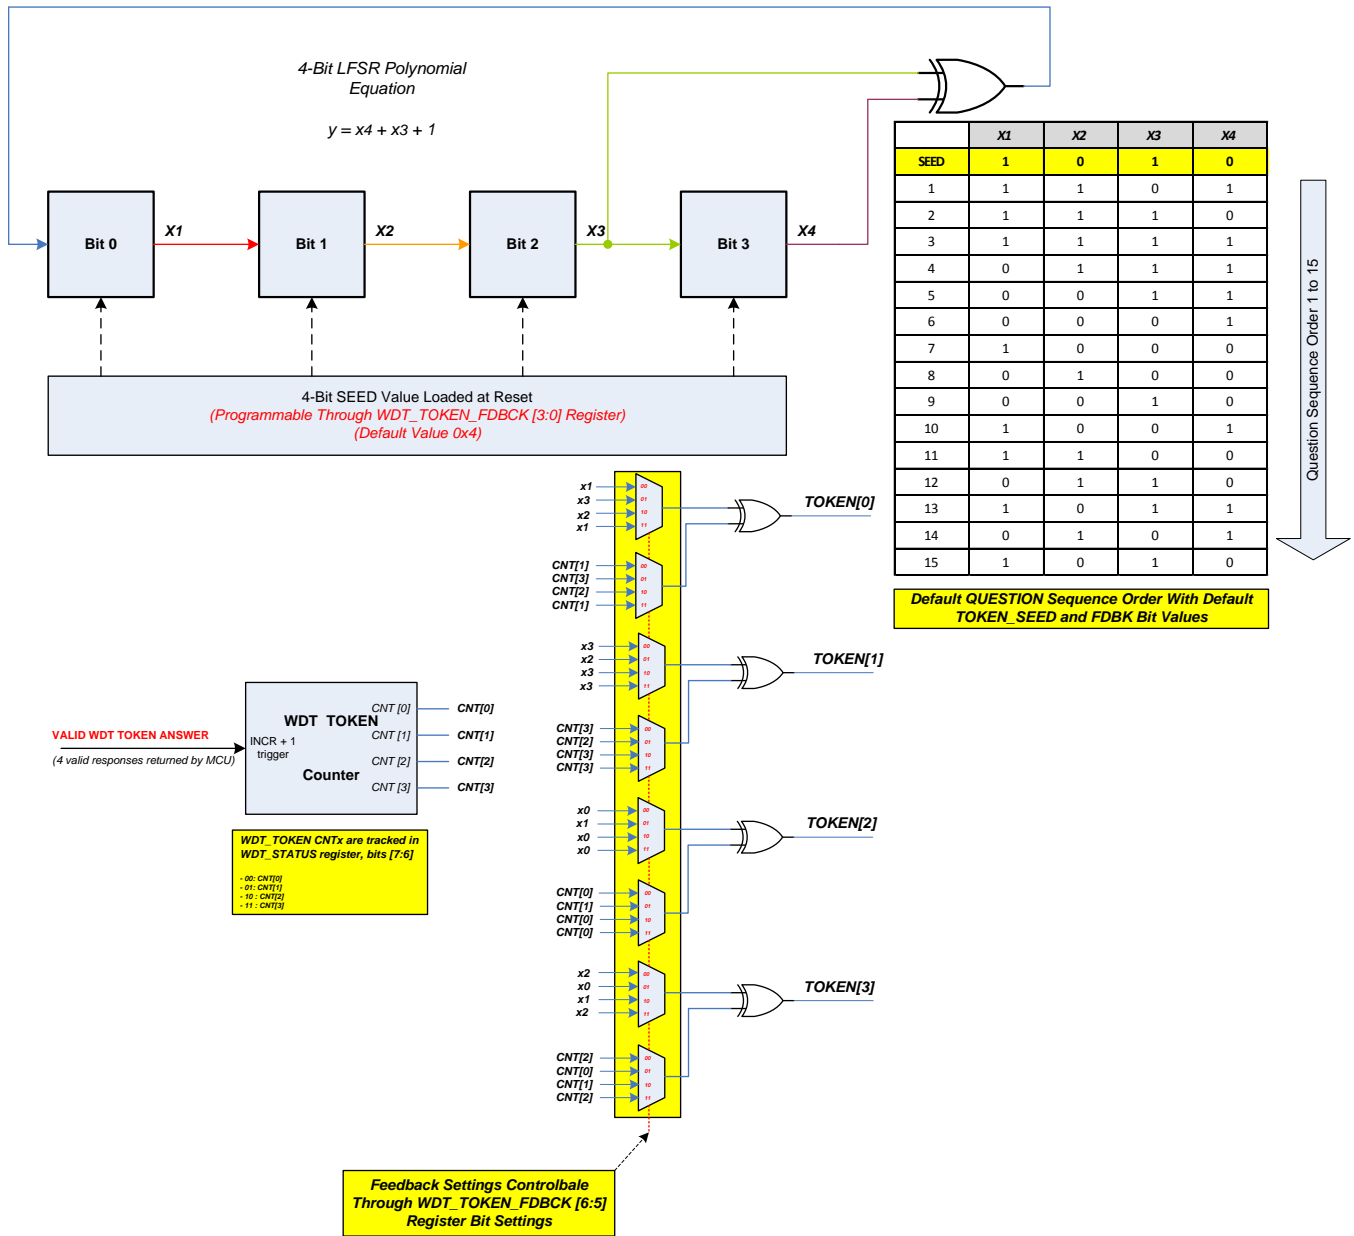

Figure 13. TOKEN Generation
- The MCU can request each new generated token at the start of the OPEN Window, but this is not a required condition for getting a *good event*. The MCU can also generate the TOKEN by itself by mimicking the TOKEN generation circuit as given in Figure 13. Nevertheless, the valid responses (*answers*) are always based on the TOKEN generated inside the TPS65381-Q1. So if the MCU generates a wrong TOKEN and gives responses (*answers*) based on its own (wrong) TOKEN, a *bad event* is detected in the TPS65381-Q1.